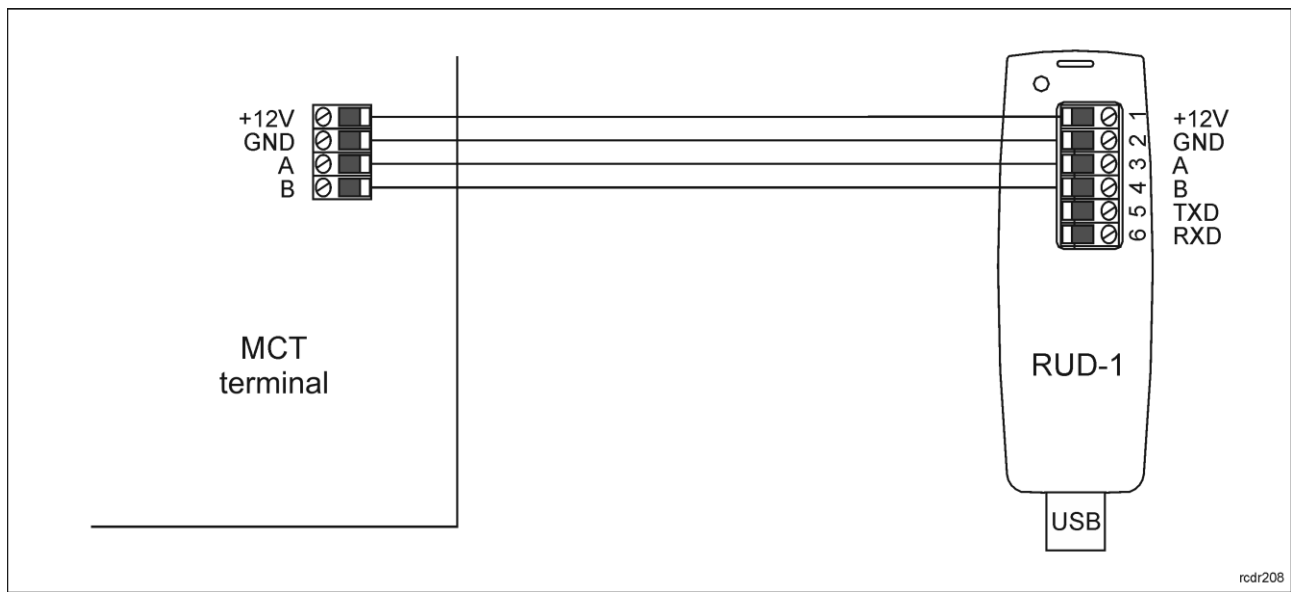

Fig. 9 Connection to RUD-1 interface (low level configuration)
1. Connect the device to RUD-1 interface (fig. 9) and connect the RUD-1 to computer's USB port.
1. Connect the reader to RUD-1 interface (fig. 9) and connect the RUD-1 to computer's USB port.